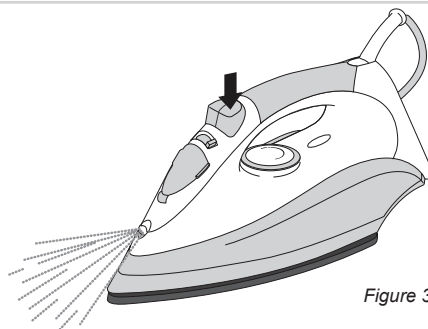

Figure 3
You can use the spray function to moisten the fabric you are ironing. Moistening the fabric makes it easier to smoothen any wrinkles. You can use the spray function at any temperature by pressing the spray function knob (6)  (see figure 3).